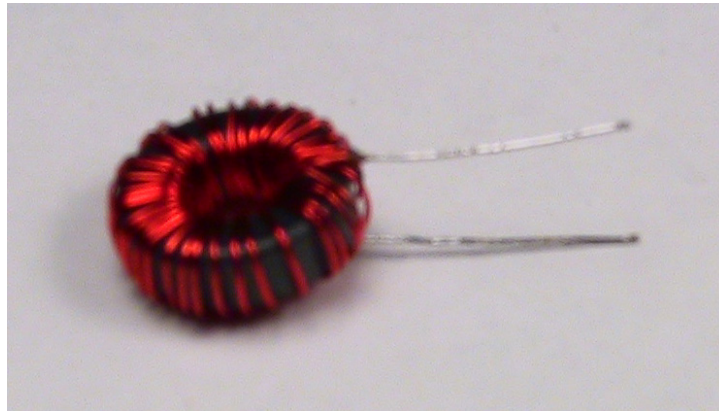

**Figure 5 Resistor Installation**
- The remaining five resistors are installed next. Bend one lead of each resistor as you did with the diodes. Figure 5 shows the board after resistor placement. Install them as follows: